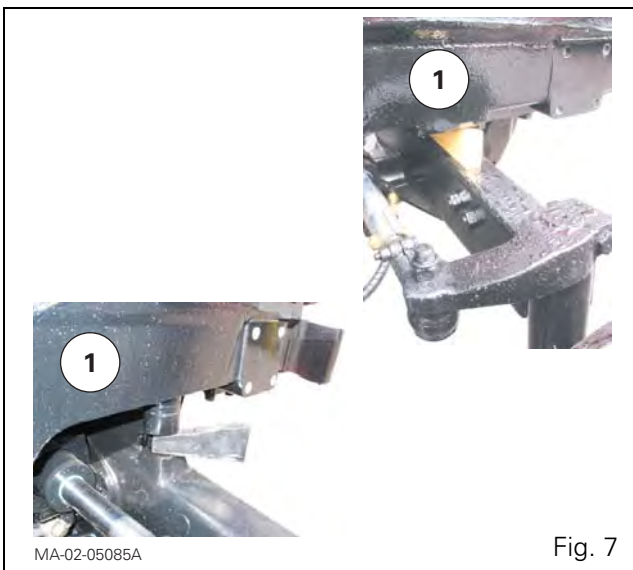

Fig. 7
- by inserting a suitable block on either side of the frame (1) as shown in Fig. 7.